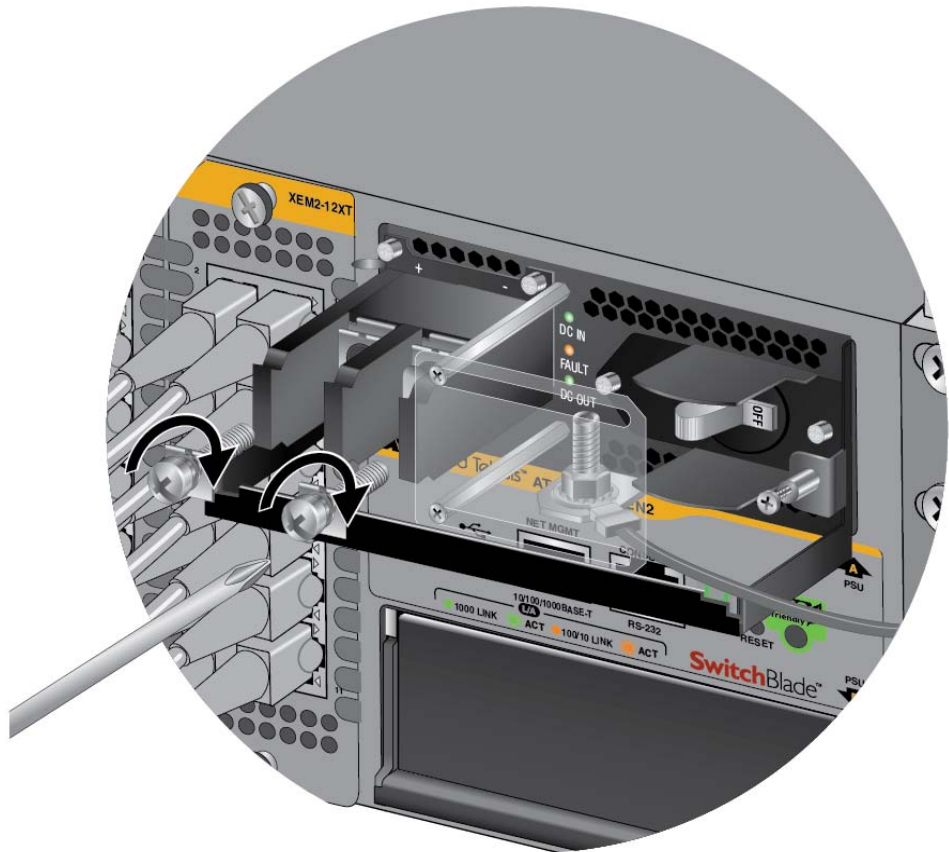

Figure 111. Reinstalling the Screws on the Positive and Negative Terminals
7. Reinstall the two screws on the negative (-) and positive (+) terminals. Refer to Figure 111 on page 153.